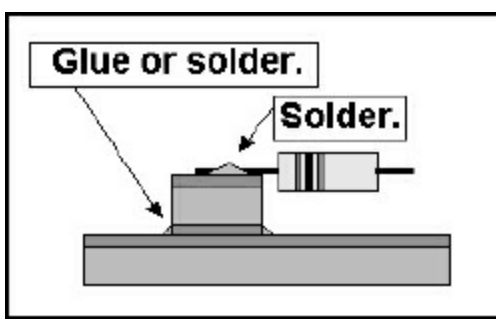

Figure 9.5 — Illustration of the Manhattan breadboarding method. From *Experimental Methods in RF Design*.
■ *The Manhattan technique.* This method is a variation of the ground-plane method, described above, in which small pieces of PC board stock are glued to the ground plane to provide terminal connection points for components. Note that this could be used as part of the ground plane method to provide additional support for components that are between ground connected components. See **Figure 9.5** for details.